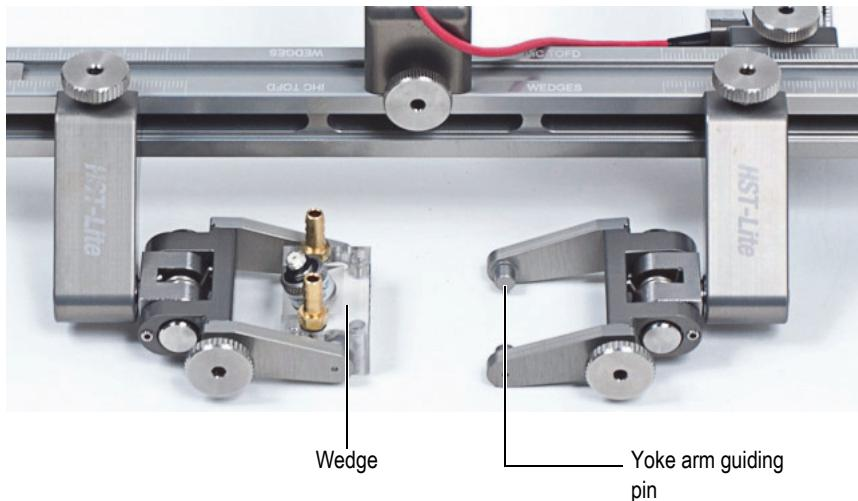

Figure 1-6 Wedge installed
4. Install the probe and wedge assembly between the two yoke arms (see Figure 1-6 on page 23).
5. Push the yoke arm in order to place the yoke arm guiding pin into the wedge side hole (see Figure 1-6 on page 23).